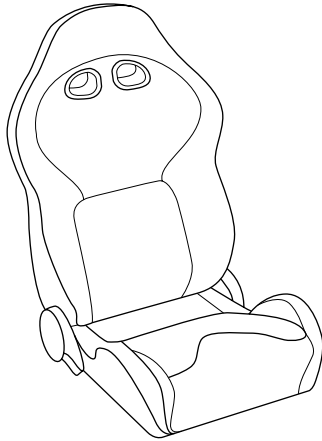
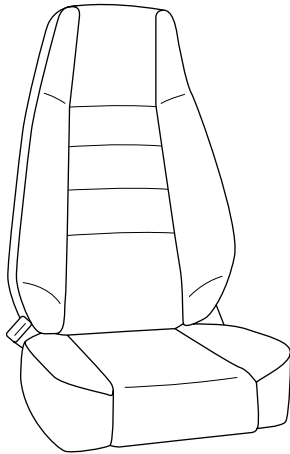

Figure 4-10:
Figure 4-11:
- All reclining seats (as shown in Figure 4-10 and Figure 4-11) use a tubular frame.